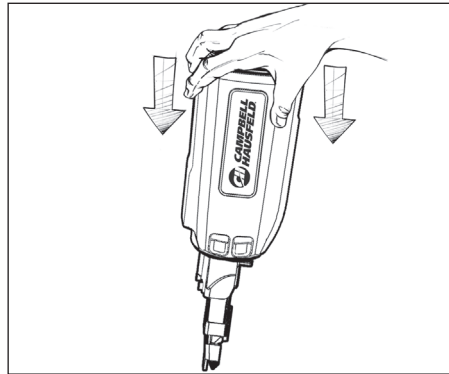

Figure 14
5. Hold the motor assembly upright. Push the motor assembly down against a solid surface and release several times to allow oil in combustion chamber to be evenly distributed (see Figure 14).